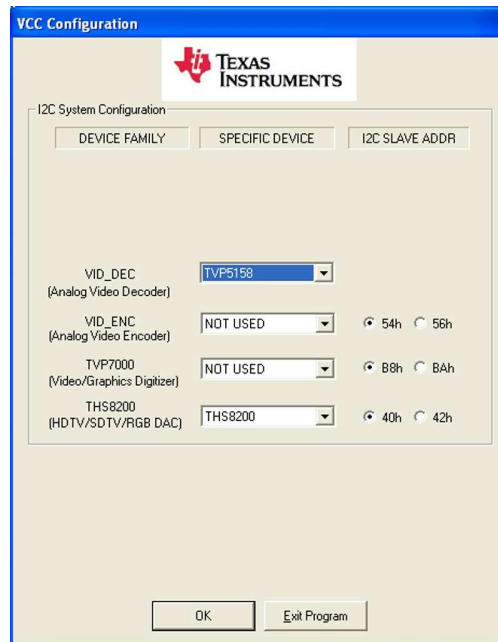

Figure 8. VCC Configuration
2. The VCC Configuration dialog box appears (see Figure 8). Click OK to continue.
2. The VCC Configuration dialog box appears (see Figure 8). Set THS8200 device family to NOT USED. Click OK to continue.